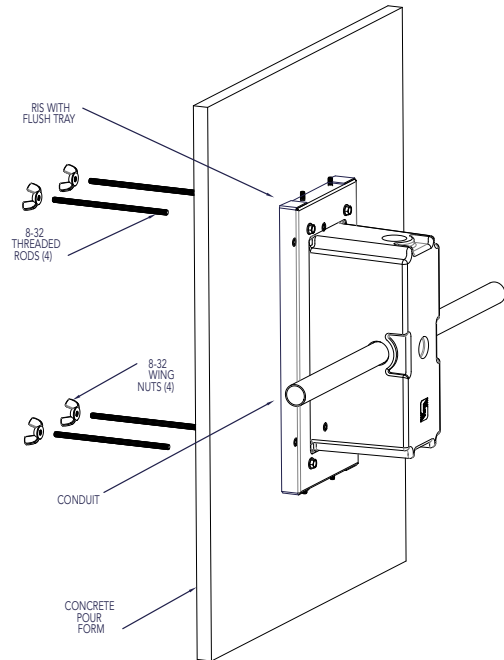

Figure 3
1. Install (4) threaded 8-32 rods (supplied) into RIS housing by piercing through vinyl label and through the MDF Flush Tray plate in specified location. Hand tighten until secure.
2. Attach RIS housing to pour form using (4) wing nuts provided so the front face of the Flush Tray will be flush with the finished surface (fig. 3).
3. Connect conduit to RIS housing (fig. 3).